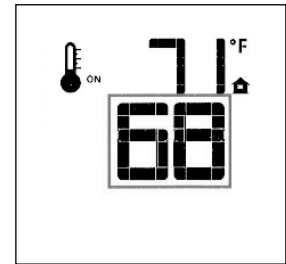

Figure 65. Change Set Temperature.
- To adjust the Set Temperature, press the Up or Down Arrow Keys until the desired Set Temperature is displayed. Fig. 65.